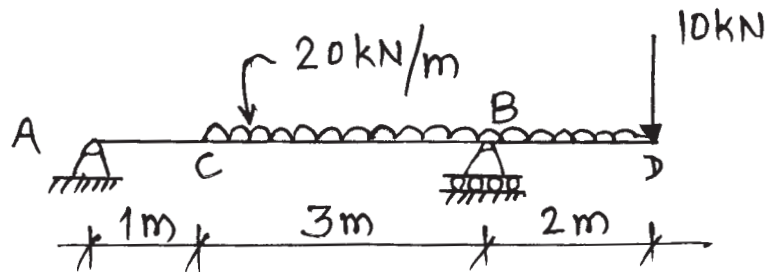

Fig. No. 4
- a) Draw S.F. and B.M. diagrams for the beam as shown in Fig. No. 4.